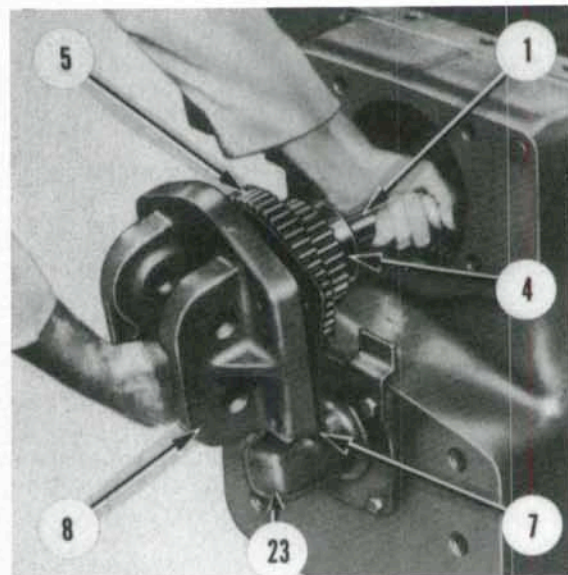

Fig. 253—View showing removal of pto upper shaft and drive gear assembly.
184. **PTO UPPER (CLUTCH OUTPUT) SHAFT AND REDUCTION GEARS.** To remove pto clutch output shaft and drive gears, first remove hitch top link from top link bracket. Unbolt and remove top link bracket (8—Fig. 253) along with drive gear (5), bearings and upper shaft (1) as a unit from rear axle center housing. Remove snap ring (2—Fig. 254) from upper shaft, then remove shaft from rear bearing and drive gear. Be sure to retain any shims (3) that may be located between gear and snap ring.